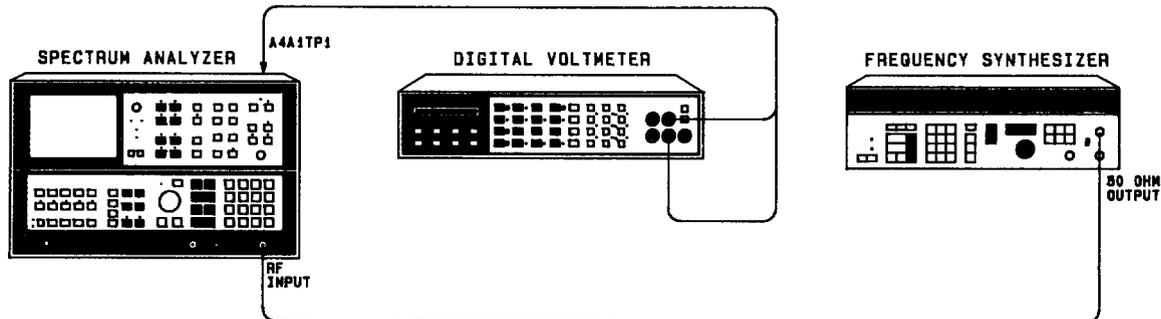

FIGURE 19. LOG AMPLIFIER ADJUSTMENTS SETUP
1. Position instrument upright as shown in Figure 19, with top cover and digital storage cover removed.